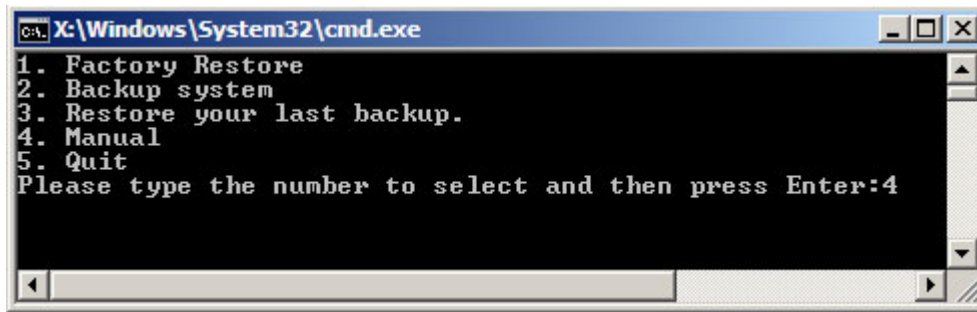

Figure A-8: Recovery Tool Menu
Step 2: The recovery tool menu appears. Type <4> and press <Enter>. (**Figure A-8**)